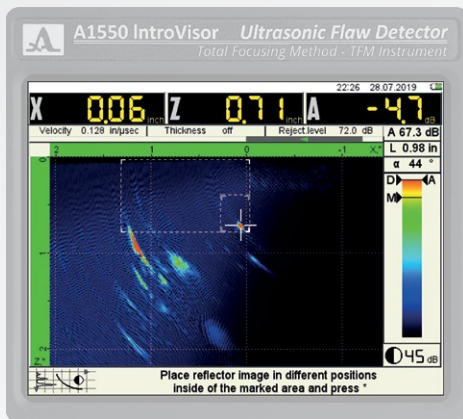

FIGURE 57
9) The screen images below show a brief sequence to understand the process (Figures 57 – 61).